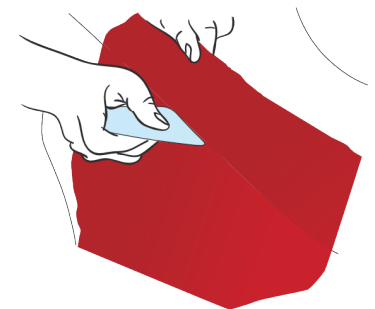

Figure 30
- › Trace the contours of the area with your finger. Lift the vinyl of the adjacent part and drag it into the hollow using a squeegee so as to mark the seal edge. (FIG. 30)